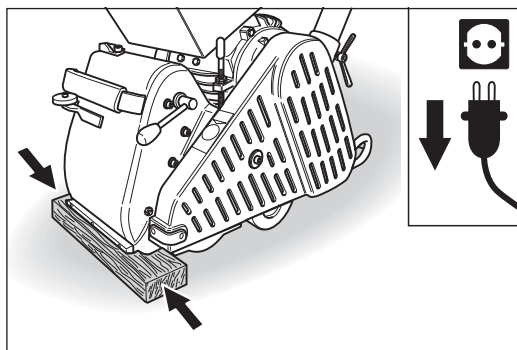

Fig. 32 Secure the machine against sliding!
- **Secure** the machine against sliding! For example, place a flat piece of wood between the floor surface and machine housing (fig. 32).